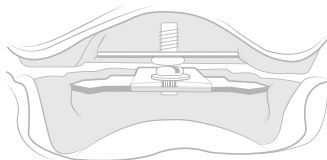

Fig. 4
**14.** To check the gothic arch, the entire plate except for the crosshairs is painted again and the entire bite registration procedure is repeated. If the second gothic arch is also positioned exactly on the crosshairs, the Plexiglas plate can be placed in the position of the tip of the arrow fixed into place using the screw and washer (Fig. 4).